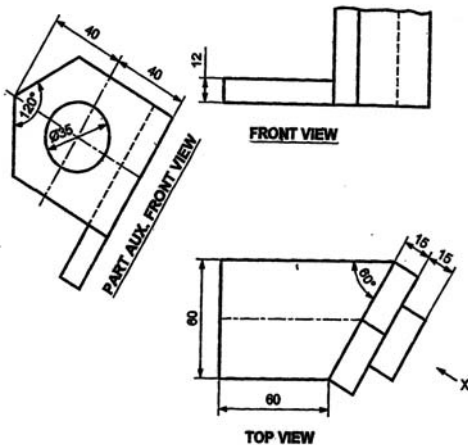

Fig. No. 02
2. a) Fig. No. 02 shows incomplete front view, top view and part auxiliary front view complete the front view (use first angle method of projection).